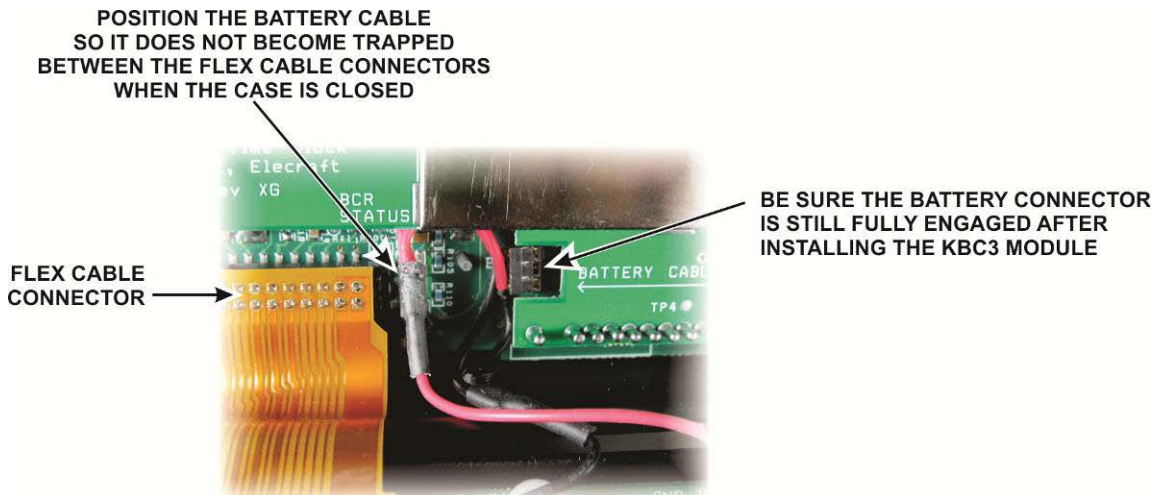

Figure 8. Positioning the Battery Cable.
- Be sure the battery connector is fully seated and the battery cable is positioned so it will not become trapped between the flex cable connectors (see Figure 8).